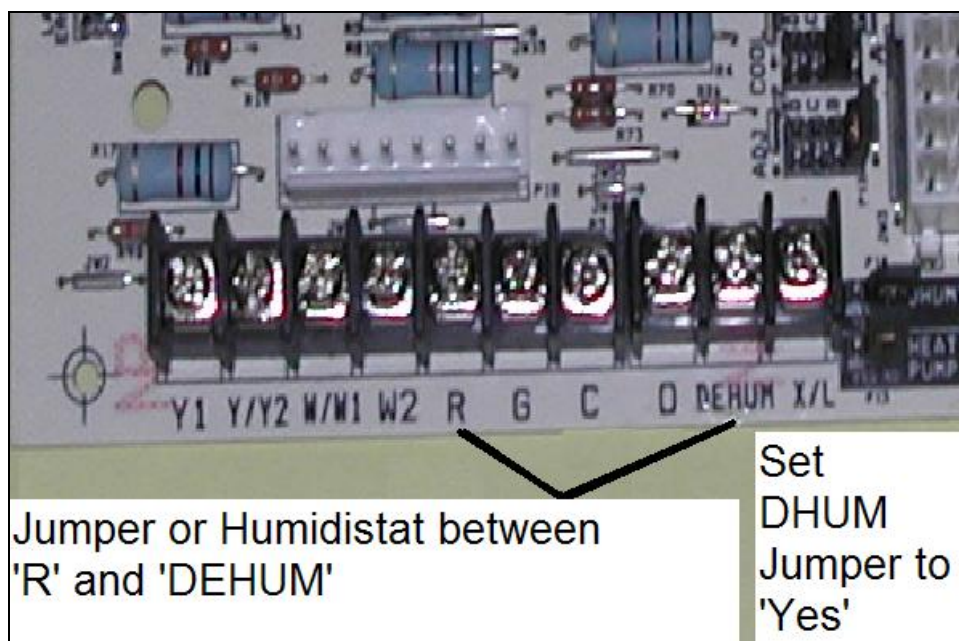

Figure 2: Setting up Board for Full Cooling CFM or Dehumidification Feature
2. To achieve full programmed cooling CFM, it is necessary to add a wire jumper from the 'R' terminal to the 'DEHUM' terminal and set the 'DHUM' selection jumper to 'Yes', refer to Fig 2.
3. For the “Dehumidification” feature to be active, where the blower runs at 85% of the programmed speed in high humid conditions simply add a ‘Humidistat’ between ‘R’ and ‘DHUM’, instead of the wire jumper as described above, refer to Fig 2.